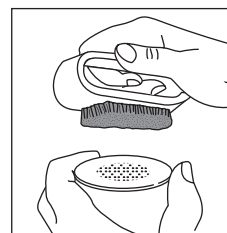
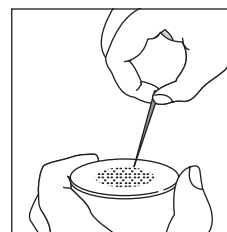

fig. 29
fig. 30
- Rinse all components and clean the metal filter thoroughly in hot water using a brush (fig. 29). Make sure the holes in the metal filter are not blocked. If necessary, clean with a pin (see fig. 30) or, preferably, by burning the particles obstructing the holes over a flame (TAKE CARE TO AVOID BURNS).
- Clean the filter thoroughly in hot water using a brush. Make sure the holes in the metal filter are not blocked. If necessary, clean with a pin (see fig. 30).
- Clean the outlet thoroughly in hot water using a brush. Make sure the holes are not blocked. If necessary, clean with a pin (fig. 30).